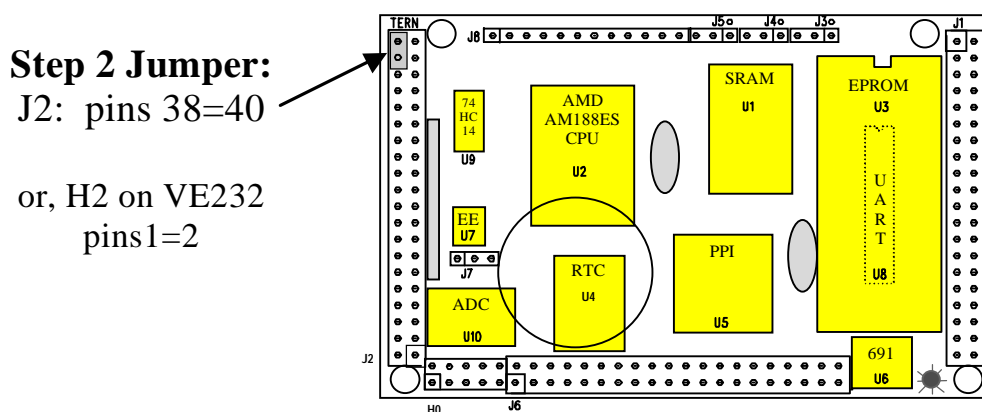

Figure 1.6 Location of Step 2 jumper on the A-Engine (see Figure 1.7 for VE232)
- Set the jumper on J2 pins 38-40 on the A-Engine/A-Engine-P (Figure 1.6).